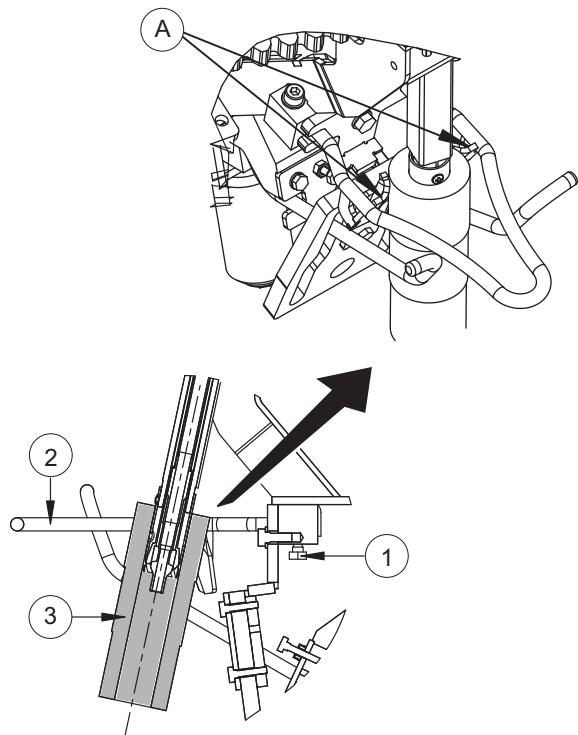

fig. 45 Setting the spreader brackets
4. Slide auxiliary tool **3** with the correct drilling over the vent blade. The spreader brackets should touch the tool in areas **A**. See fig. 45 (top).
See fig. 45 and tab. 10.